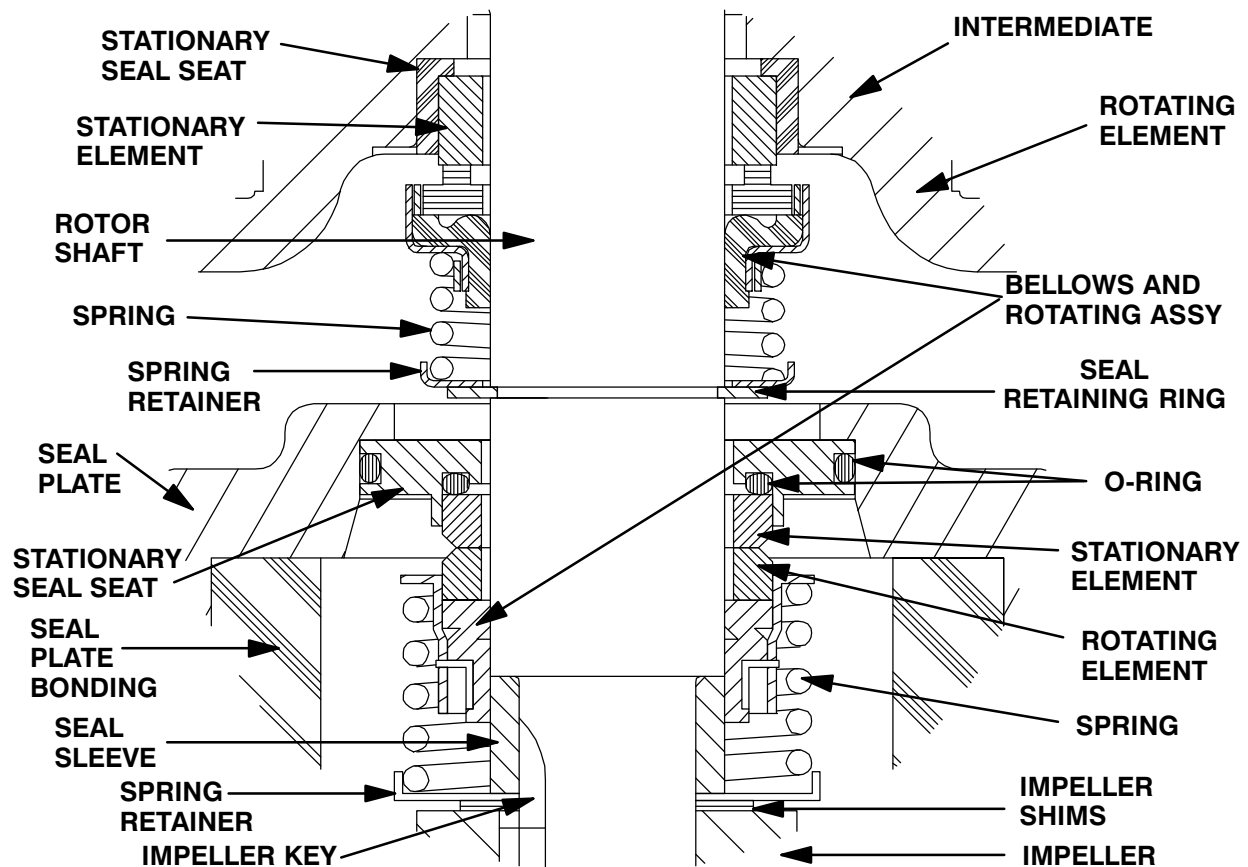

Figure 4. Upper And Lower Seal Assemblies
Install the shaft seals as illustrated in Figure 4.
Slide the seal spring over the shaft and bellows retainer, and install the spring retainer. Install the seal retaining ring (9). See Figure 4 for the proper order of seal assembly.
Slide the seal spring over the shaft and bellows retainer, and install the seal spring retainer (43). See Figure 4 for proper order of seal assembly.